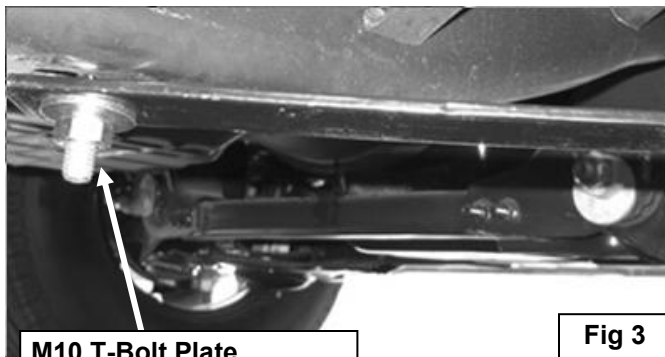

Fig 3
6. Select the passenger side front Support Bracket and hang it from the T-Bolt Plate with the included (1) 10mm Flat Washer, (1) 10mm Lock Washer and (1) 10mm Hex Nut. Do not tighten hardware at this time **(Figure 3)**.